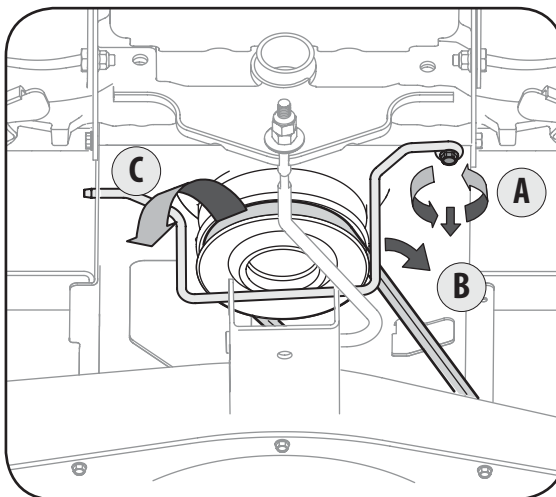

Figure 6-4
3. Remove the belt-keeper rod (B), from around the tractor's engine pulley, by removing the self-tapping screw (A) that secures it. See Figure 6-4.